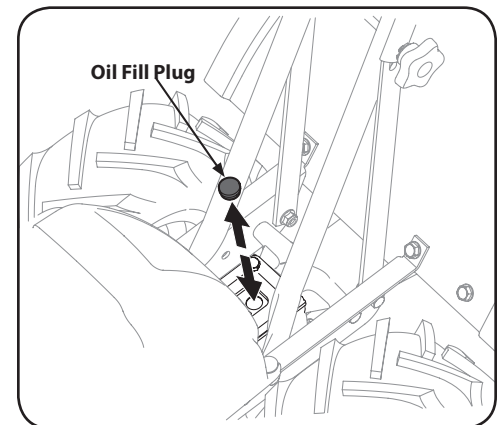

Figure 5-2
3. Clean the area around the oil fill plug. See Figure 5-2.
4. Remove the oil fill plug from the transmission housing and look inside the oil fill hole to locate the main drive shaft situated below the hole. See Figure 5-2.